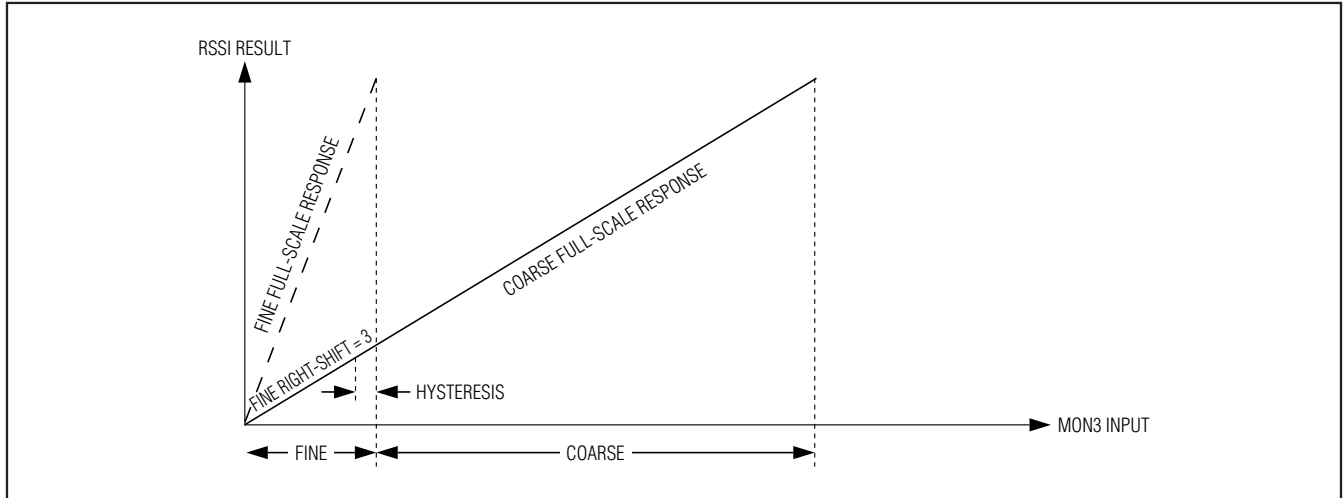

Figure 9. RSSI with Crossover Disabled
- Crossover Disabled:** The crossover disabled mode is intended for systems with a linear relationship between the MON3 input and desired ADC result. The ADC result transitions between the fine and coarse ranges with hysteresis (Figure 9). In crossover disabled mode, the thresholds between coarse and fine mode are a function of the number of right-shifts being used. With the use of right-shifting, the fine-mode full scale is programmed to  $(1/2^{n\text{th}})$  of the coarse-mode full scale. The device now auto ranges to choose the range that gives the best resolution for the measurement. Table 4 shows the threshold values for each possible number of right-shifts.